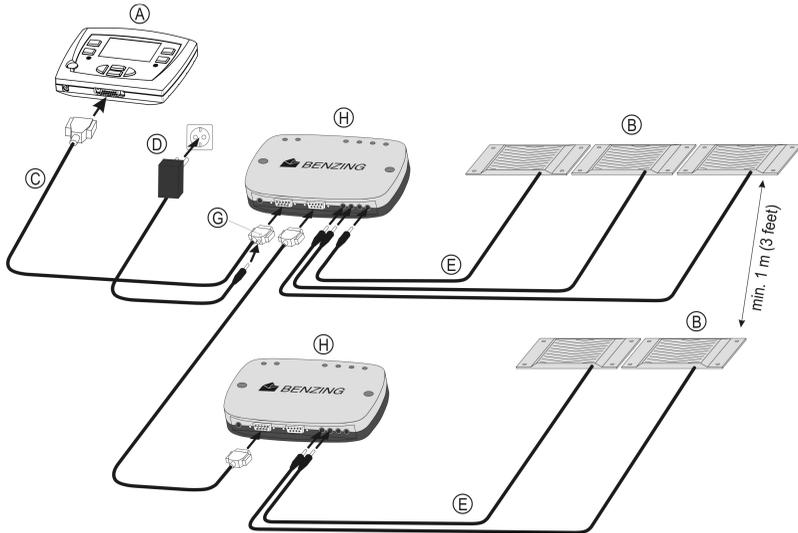

Figure 3.4 – Fancier system BENZING M1 with EFA EXPRESS Antennas
- After having plugged-in the power supply unit, the green display "Power supply ON" on the plug of the M1 Fancier Cable must light up (see (G) in figure 3.4) and also the blue LED 'Power' on the Antenna Controller(s) must light up. This indicates that the power supply is correctly provided.
- Before plugging in the power supply unit please check if the installation corresponds to the figure 3.4. Make sure that before connecting the BENZING M1 to the mains humidity has not found its way into the case of the BENZING M1 and that the device is being operated according to the conditions of use mentioned in section 3.1.